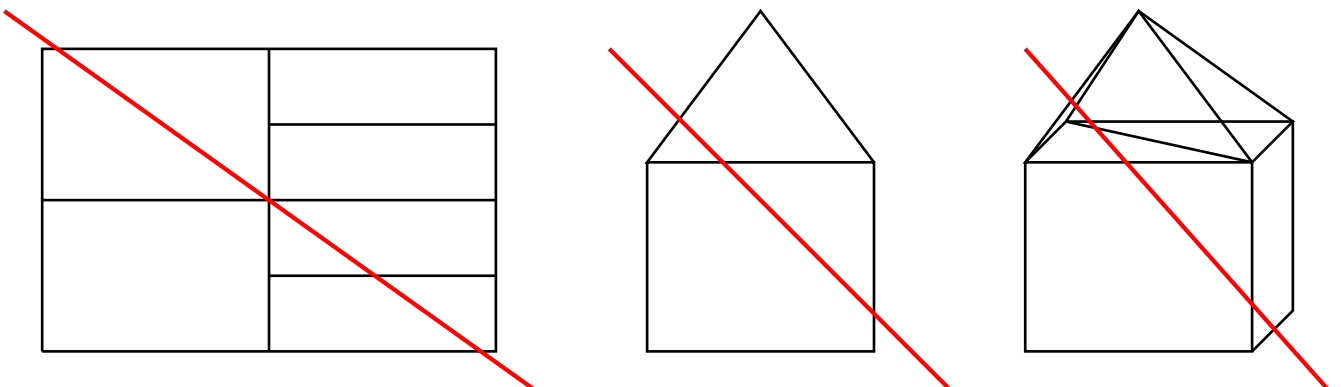

Figure 3.3: Prohibited meshes
**Be carefull** non standard and hybrid meshing are not supported! (cf Figure 3.3)